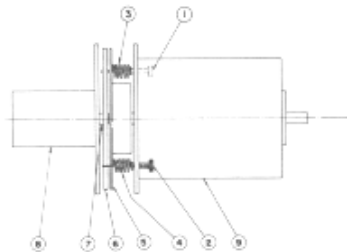

Figure 4-1. Disc Brake Outline
4.1.2. Brake System (See figs. 4-1 and 8-1.)
To adjust brakes (figure 4-1), proceed as follows: